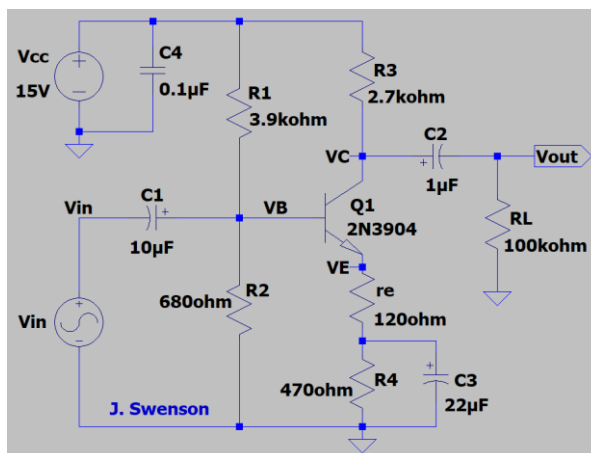

Figure 4: BJT Amplifier Circuit to be Analyzed for this Lab.
1. For the **Figure 4** circuit, hand calculate V_B using simplified analysis, followed by I_E , r_c , r'_e and A_v , along with $|A_v|_{dB}$ calculated as $20\log_{10}(|A_v|)$, including your results below in **Table 1**. Note: The ac voltage gain A_v is a unitless negative quantity for an inverting amplifier, whereas $20\log_{10}(|A_v|)$ is a positive quantity with units of dB. (12 points.)
1. Connect up the BJT amplifier circuit of **Figure 4** on a breadboard, with V_{in} provided by a VirtualBench function generator (FGEN) output. For the polarized capacitors, the lead adjacent to a negative polarity stripe on the body of the part indicates the negative lead, which is to correspond to the curved plate on the schematic symbol.
4. Set the VirtualBench Function Generator to output a 10 Hz, 200 mV peak-to-peak sine wave, and connect the BNC to alligator or micro-grabber cable so as to provide the input voltage V_{in} as indicated in **Figure 4**.
5. Connect up both channels on the oscilloscope, with CH 1 to monitor V_{out} and CH 2 to monitor V_{in} for the **Figure 4** circuit, with the V_{in} signal (CH 2) set as the trigger source.
8. After achieving reasonable waveforms on the oscilloscope for a 10 Hz, 200 mV input sinusoid, select the **Acquisition** option from the pull-down menu in the upper right-hand corner of the oscilloscope user interface screen and choose **Acquisition** → **16 Averaged** to reduce random measurement noise. Using the VirtualBench built-in oscilloscope waveform measurements, add a **Peak-to-Peak** Waveform Measurement to CH 1. **The oscilloscope's automatic peak-to-peak measurement function does not work well on relatively small signals because of noise, and so use the waveform cursors instead to measure the CH 2 peak-to-peak voltage V_{in} .** To do so set the cursor type as **Voltage** and position the two waveform cursors to provide the voltage difference ΔY , that represents the average peak-to-peak voltage of the signal at V_{in} in **Figure 4**. Record this cursor measured peak-to-peak value as V_{in_p-p} in **Table 1** below, adjusting the cursors as necessary for the different input frequencies. Also, for each input frequency listed in **Table 1** below, record the CH 1 **Peak-to-Peak** Waveform Measurement as V_{out_p-k} in the table. While the VirtualBench **Peak-to-Peak** Waveform Measurement is not accurate for low-level signals, those automatic waveform measurements are sufficient for the V_{out_p-k} data to be included in **Table 1**, as relatively low-level V_{out_p-k} signals only occur for very low and very high frequencies. (Note: With **16 Averaged** selected, it is necessary to wait several seconds after changing input frequencies for the oscilloscope to acquire 16 new measurements for averaging.)
1. Why is the calculated small-signal gain negative for the BJT amplifier circuit of **Figure 4**? (2 Points.)
2. For the BJT Amplifier Circuit of **Figure 4**, describe the function of capacitor C1, along with how the capacitor behaves at dc and the ac frequencies of interest. (3 Points.)
3. For the BJT Amplifier Circuit of **Figure 4**, describe the function of capacitor C3, along with how the capacitor behaves at dc and the ac frequencies of interest. (3 Points.)